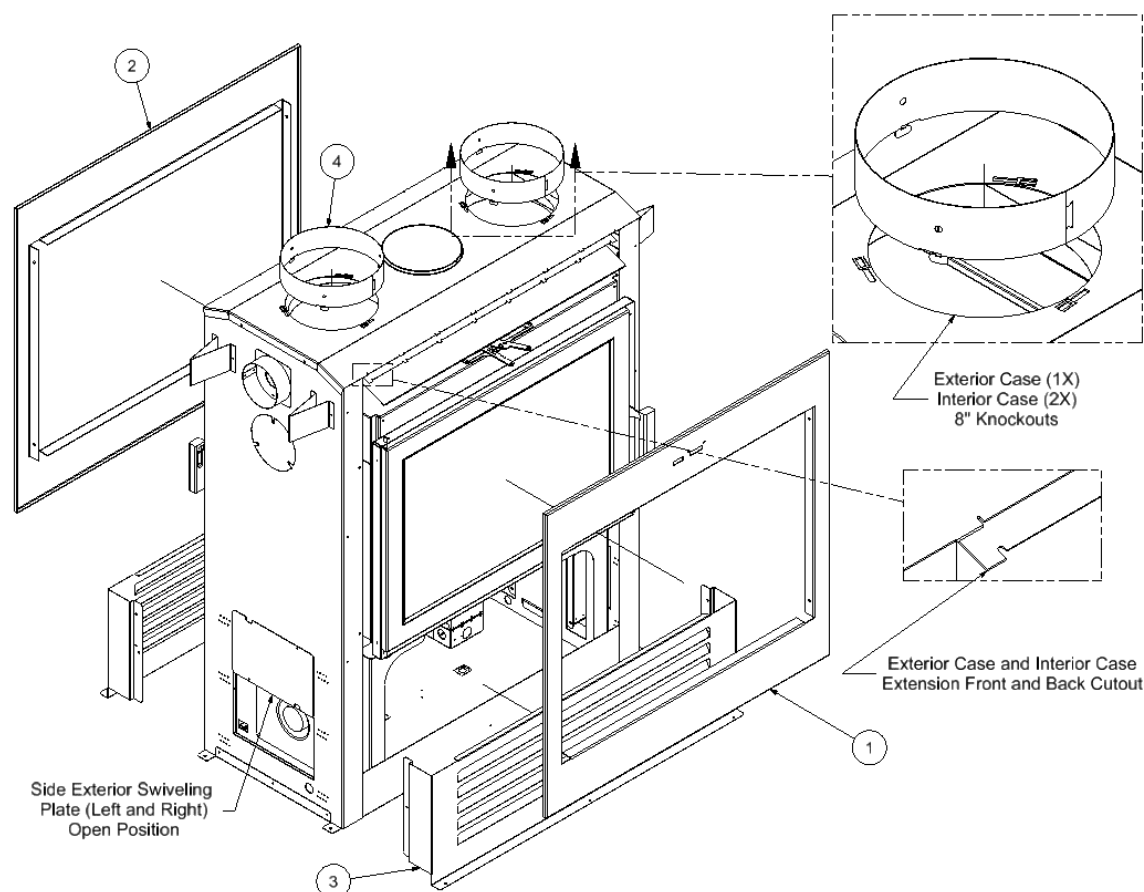

Figure 3-8: Contemporary Surround
4. Fasten the Lower Framing Brackets to the side exterior casing of the unit as illustrates in Figure 3-8. Note that these brackets can be adjusted for framing purposes.
The Contemporary surround comprises no louvers; however, an intake into the chase and an outtake through gravity ducts is required for this configuration. The instructions below describe the installation of the Contemporary surround. Refer to Figure 3-8 and Table 3-4 for the instructions below. Refer to Section 3.5 for Gravity Kit installation instructions.
3. Place the Front Contemporary surround (Item 1 in Figure 3-8) within the door holder and secure it in place with 4 black screws (one on each corner). Make sure that the handles of the Combustion Air Control pass through the slots of the surround.
4. Repeat Step 3 with the Contemporary Back surround (Item 2 in Figure 3-8).
6. Secure the Intake Swivel Covers on the bottom sides of the unit to the **open** position (Figure 3-8).
7. Remove the 8 inch knockouts at the top exterior case (2X), the top interior case (2X) and the top interior shield (2X) of the unit using a flat head screwdriver (Figure 3-8).
8. Install the 8 inch duct adapters (Item 4 in Figure 3-8) on the newly cut knockouts of the exterior case by aligning/inserting the tabs to the slots and turning counter clockwise to lock in place (Figure 3-8).
- The intake swivel covers at the bottom sides must remain open for all Contemporary Surround installations (refer to Figure 3-8).